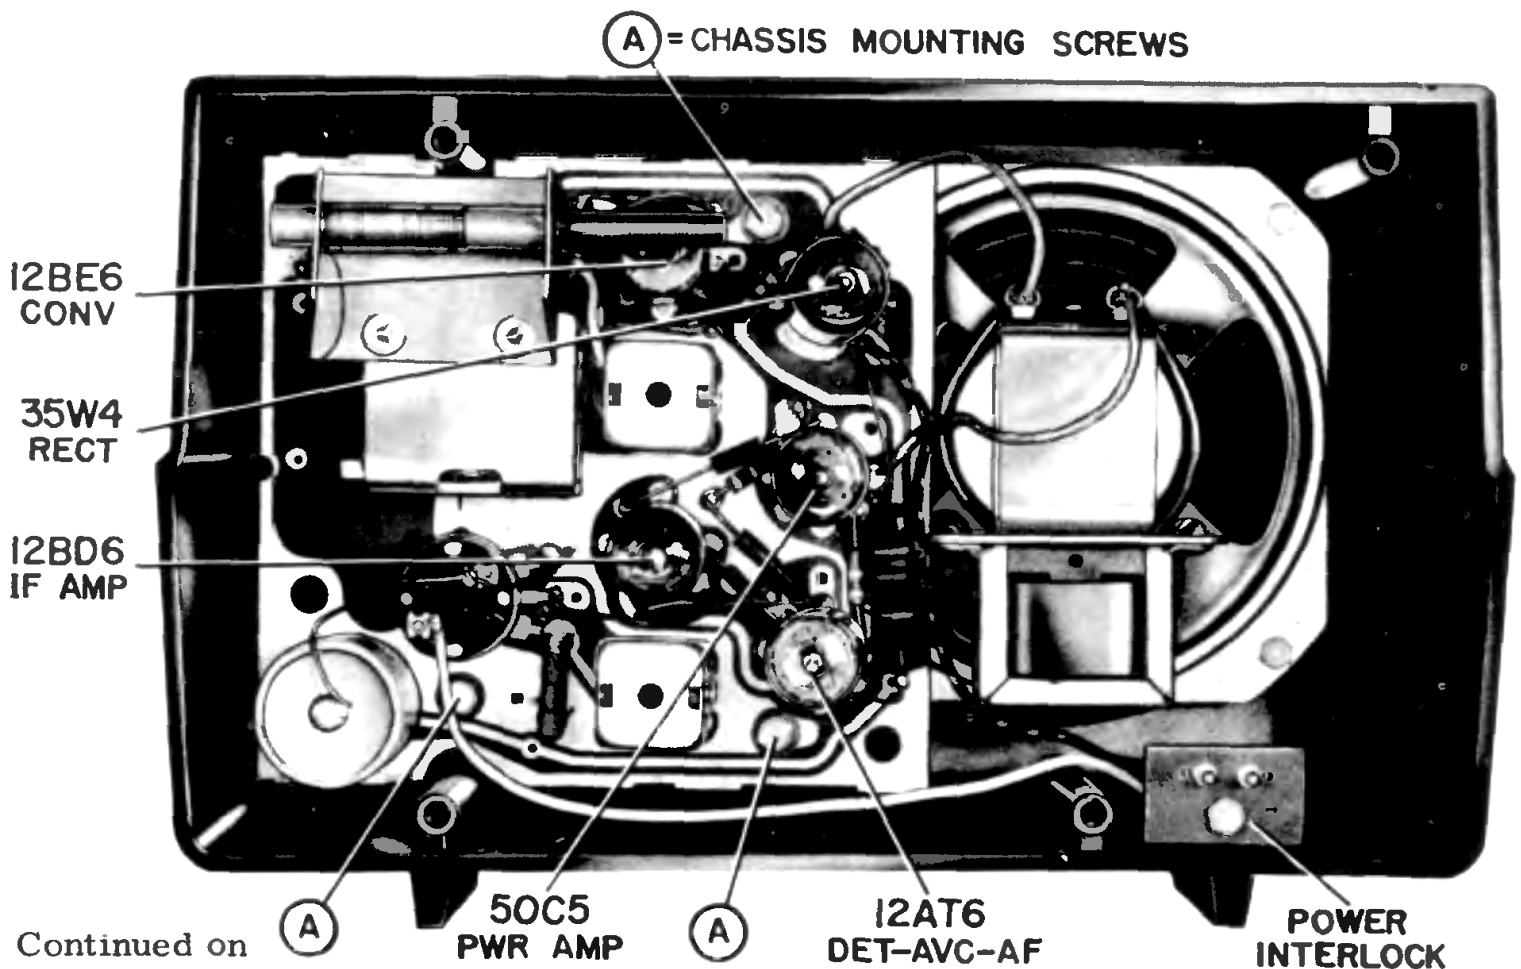

FIGURE 1. REAR VIEW OF RECEIVER (LATE MODEL)
6. From the back, remove the three screws which mount the chassis. CAUTION: Do not lose the insulating washers on the screws -they prevent damage to the printed circuit by the heads of the screws. See Figure 1.